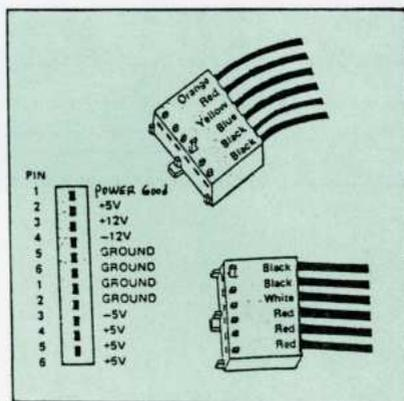

Fig5-1
2. Attach power supply connectors to J16 as marked (Fig.5-1)